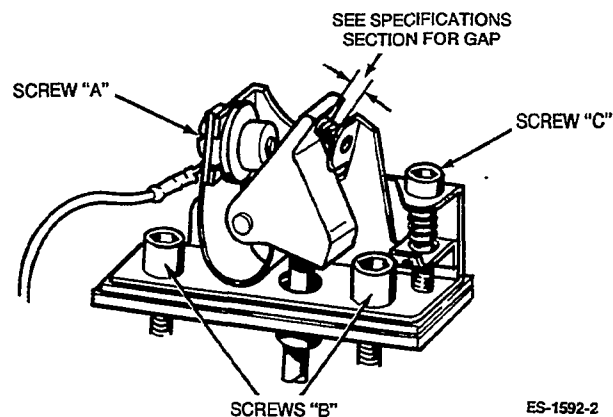

FIGURE 6-9. BREAKER POINTS
4. Disconnect the ignition lead wire at screw A (Figure 6-9).
5. Remove the breaker points' mounting screws (B) and lift out the point assembly.